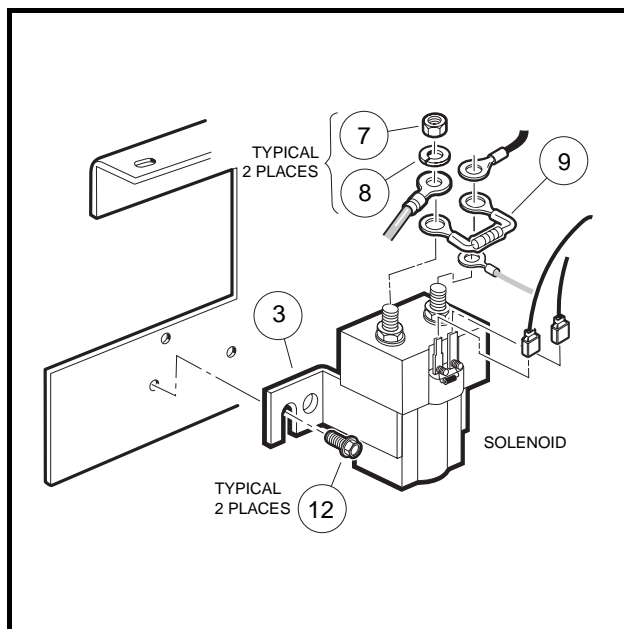

Figure 13-5 Solenoid
3. Disconnect all wires from the solenoid (3) (**Figure 13-5, Page 13-7**).
4. Loosen, but do not remove, the two screws (12) that hold the solenoid (3) to the component mounting plate.
5. Lift the solenoid (3) up and off of the component mounting plate.
1. Mount solenoid (3) onto component mounting plate with screws (12) (**Figure 13-5, Page 13-7**).
2. Tighten screws (12) to 60 in-lb (6.8 N·m).
3. Using the wiring diagram, install the wires, resistor (9), washers (8), and nuts (7) onto the large mounting posts. Tighten nuts to 77 in-lb (8.7 N·m). **See Wiring Diagram, Section 11, Page 11-10.**
4. Install the blue/white and light blue wires onto the small terminals of the solenoid (**Figure 13-5, Page 13-7**).